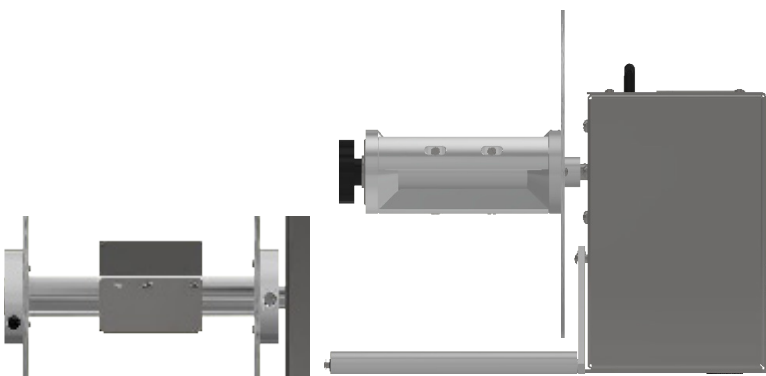

FIG. 7
- STANDARD, 1-INCH AND 10-INCH(FIG.7): Slide the Flange Plate onto the hollow end of the Rewind Shaft. For maximum width, the Flange face should be flush with the end of the Shaft. Tighten the screw in the Hub.